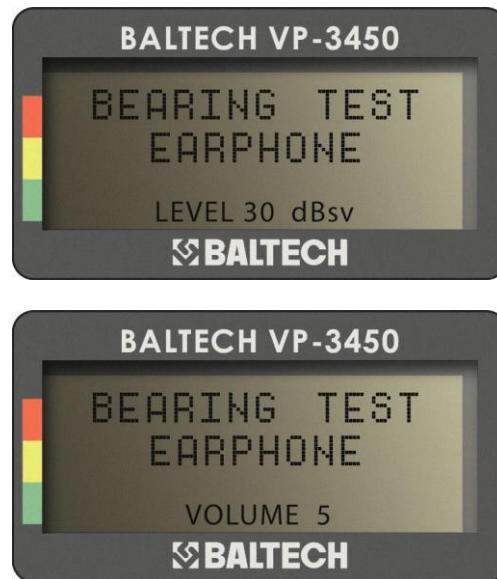

Figure 4-6. Headphone mode.
- To adjust volume press the SET key when the headphones are is connected, the volume level can be changed with the UP/DOWN keys from 1 to 10 (Figure 4-6).